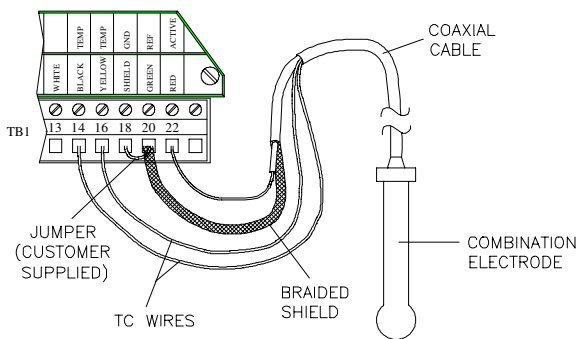

FIGURE 2-7 Connecting Conventional Combination Electrode to Analyzers with “B” Prefix Serial Number
The electrode must be within 100 ft./30 m of analyzer (985 ft./300 m for electrode with preamp). See Figures 2-7 or 2-8 and directly connect electrode’s coaxial cable to analyzer.
- Terminals 18 and 20 for analyzers with “B” prefix serial number (Figure 2-7).
- Terminals 14 and 16 for analyzers with “B” prefix serial number, attaching either wire to either terminal (Figure 2-7).